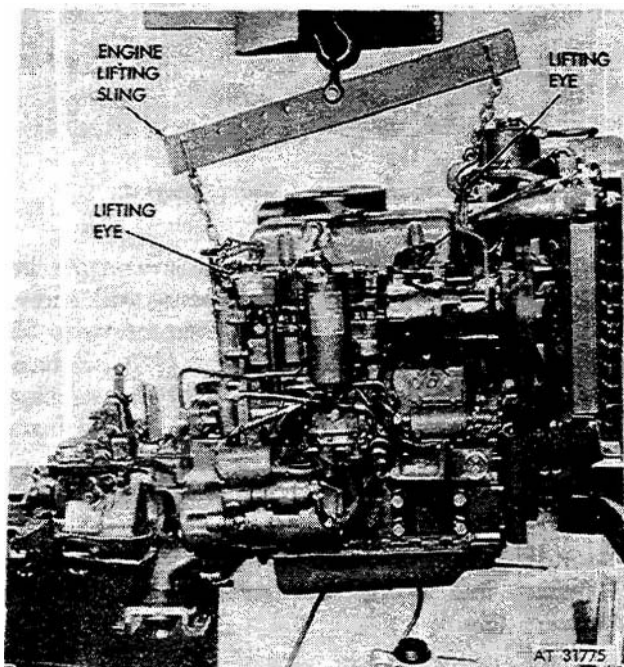

Figure 2-5. Engine lifting sling.
(3) Disconnect isolator brackets (12) from hull by removing screws (13). Install engine lifting sling (11595523) on engine. Attach chain hoist to sling and apply a slight strain on engine (fig 2-5). Disconnect bracket (21) by removing screw (19) and lock washer (20). Remove spring (23) from bracket.